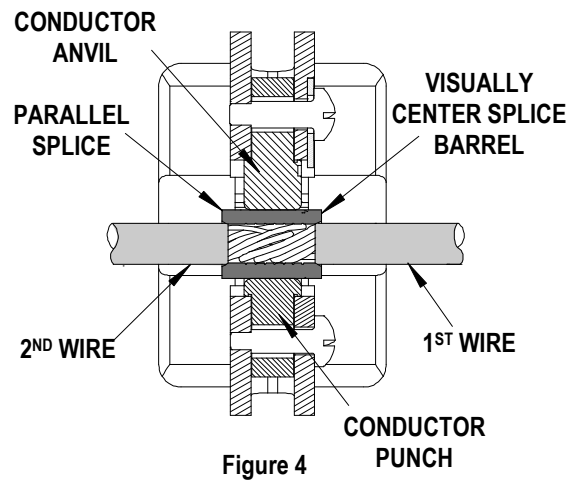

Figure 4
6. When crimping parallel splices insert the first wire into one end of splice then insert the second wire into the opposite end of the parallel splice. This procedure will crimp both wires at the same time. Make sure the wires are fully seated into the parallel splice. Position the splice and the wires in the nest with conductor crimp on the conductor barrel of the splice. The splice should be approximately centered inside the tooling nests. See Figure 4. Cycle the tool.